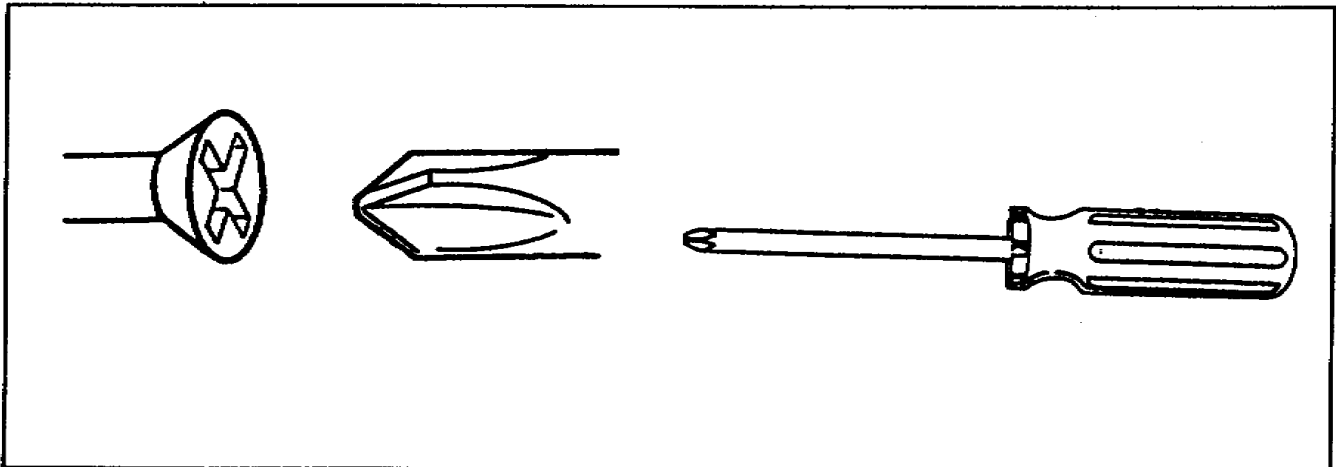

Figure 2-36. Phillips screwdriver
b. Phillips Screwdrivers. Phillips screwdrivers are used only for driving Phillips screws (Figure 2-36). Phillips screws have a head with two V-slots, which cross at the center. The tip of the Phillips screwdriver blade is shaped like a pointed or beveled cross to fit into these slots. This type of screwdriver cannot slip out of the slot, therefore preventing damage to expensive finishes.